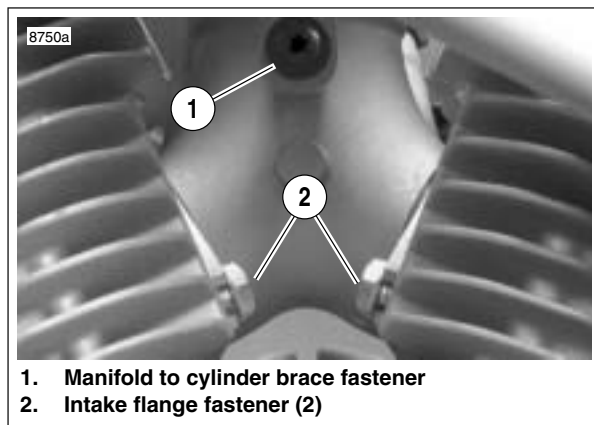

Figure 4-102. Intake Manifold (Primary Side)
- b. See Figure 4-102. Remove fastener (1) holding manifold to cylinder brace.